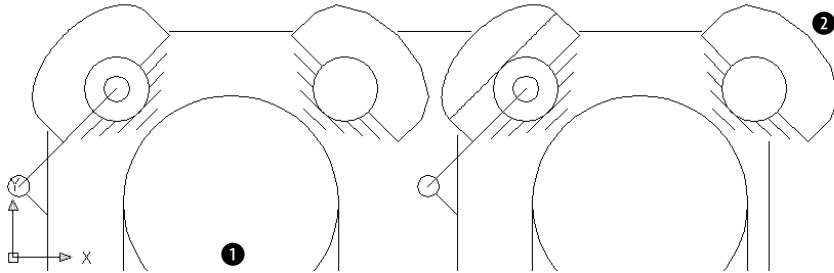

**Figure 8-1:** The air compressor is zoomed in so that you can see only part of the drawing.
1. Open `ab08-a.dwg` from the CD-ROM. This is an air compressor, as shown in Figure 8-1.
2.  Choose Pan Realtime from the Standard toolbar. Move the cursor to **1** in Figure 8-1, then click and drag to **2**. The air compressor moves up and to the right. (Note that by the time you get to **2**, the display of the air compressor has moved — however, you should drag to where **2** was on the screen.) Press Esc.